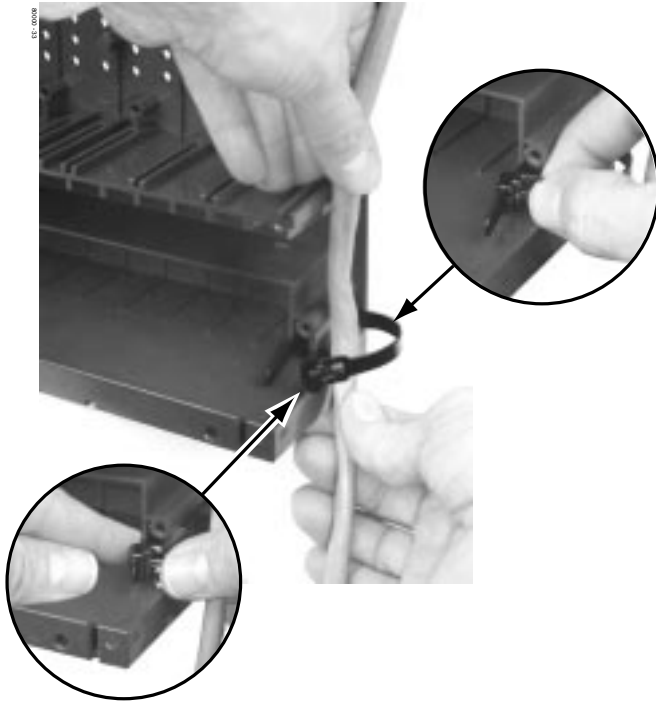

Figure 2-16 SECURING THE CABLES
2. After you have punched down your cables, route them through the side of the cabinet and secure them with the strain relief (Figure 2-16).